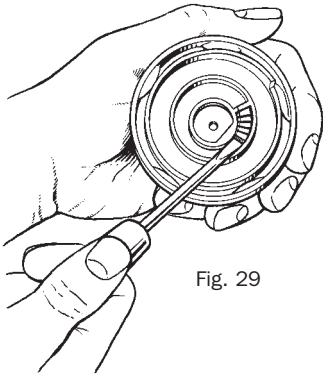

Fig. 29
- ii) Remove “limit stop” with screwdriver as shown in Fig. 29.